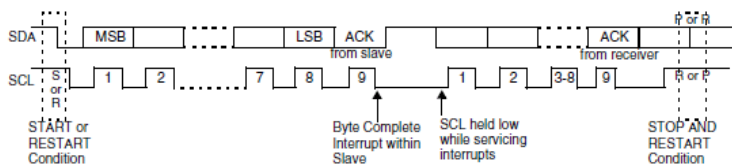

Figure 80: Data transfer on the I2C Bus
If the master (master-transmitter) is writing to the slave (slave-receiver), the receiver gets one byte of data. This transaction continues until the master terminates the transmission with a STOP condition. If the master is reading from a slave (master-receiver), the slave transmits (slave-transmitter) a byte of data to the master, and the master then acknowledges the transaction with the ACK pulse. This transaction continues until the master terminates the transmission by not acknowledging (NACK) the transaction after the last byte is received, and then the master issues a STOP condition or addresses another slave after issuing a RESTART condition. This behaviour is illustrated in Figure 80:
**Note 8:** The signal transitions for the START/STOP conditions, as depicted in Figure 80., reflect those observed at the output signals of the Master driving the I2C bus. Care should be taken when observing the SDA/SCL signals at the input signals of the Slave(s), because unequal line delays may result in an incorrect SDA/SCL timing relationship.